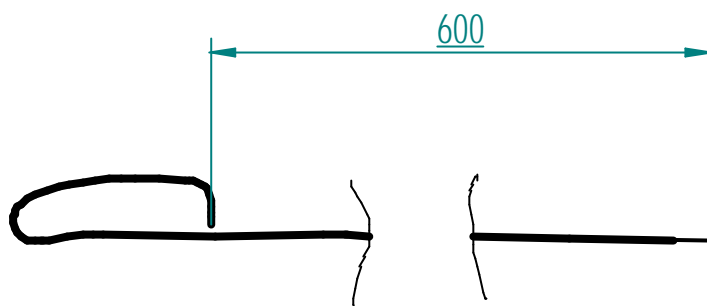

Fig. 5.11.9
9. Bend the securing wire as shown in figure 5.11.9.